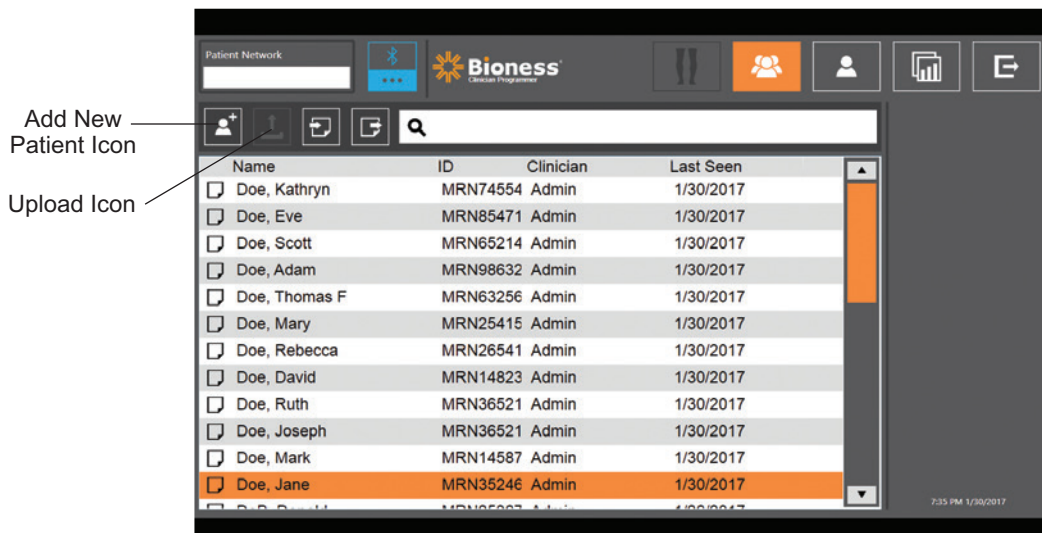

Figure 9-2: Add New Patient Icon
- From the Patient Database Screen press the Add New Patient con. See Figure 9-2.
2. Open the Patient Database Screen and highlight the patient from the Patient List. See Figure 9-2.
3. Press the Upload icon, see Figure 9-2. A window will appear stating "Program all stimulators with patient: X,X". Press the Continue button.